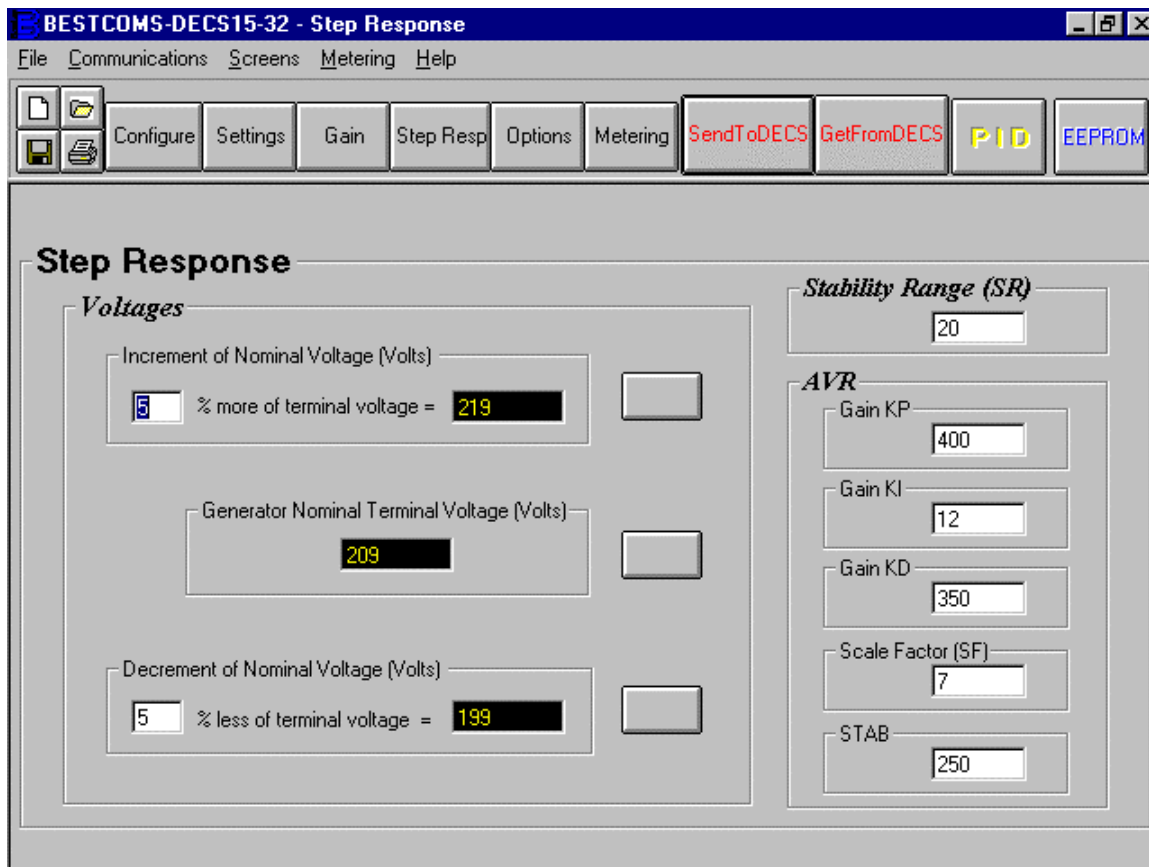

Figure 5-11. Step Response Screen
See Figure 5-11 for the Step Response settings descriptions.
Step Response, Stability Range (SR) And AVR. The settings shown in the windows for the Stability Range and AVR are identical to those windows in the Control Gain screen display (Figure 5-11). If Stability Range 20 is functional, any changes made to the AVR windows and then sent to DECS also changes the Control Gain windows.